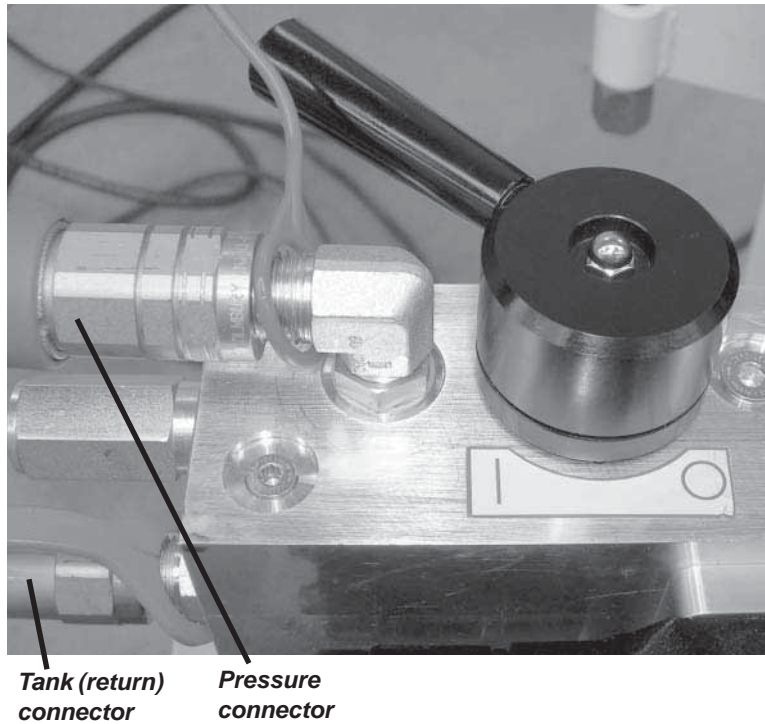

Figure 5-33. Connect the hydraulic hoses to the motor as shown.
3. Connect the hydraulic hoses to the ports on the motor as described in Figure 5-33.